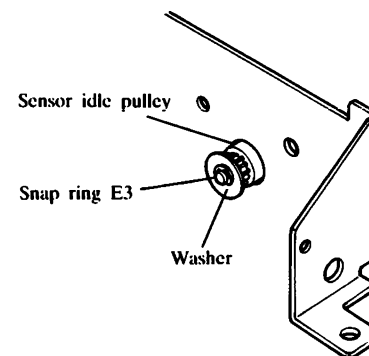

Fig. 34
- (1) Remove the Snap ring E3 and the washer fixing the Sensor driving pulley. (Refer to Fig. 34)